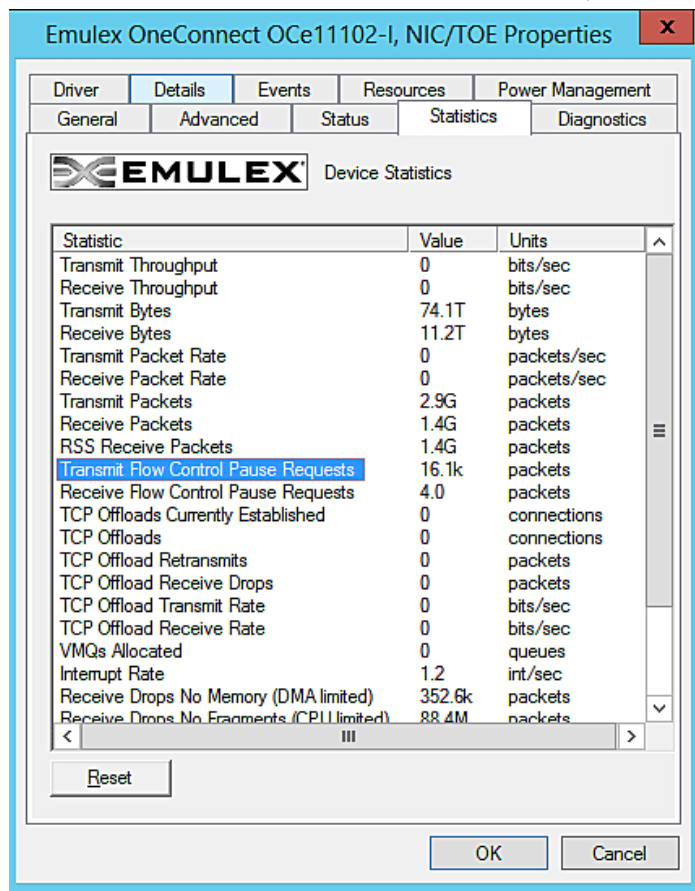

Figure 3-3 NIC Statistics Properties in Windows Server 2008
3. Click **Properties**, then click the **Statistics** tab (Figure 3-3 on page 65).